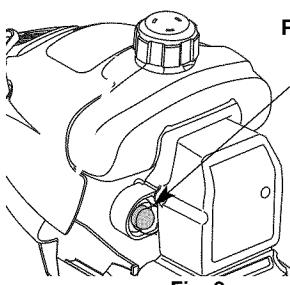

Fig. 3
- Fully press and release the primer bulb 10 times, slowly. Some amount of fuel should be visible in the primer bulb and fuel lines (Fig. 3). If you can't see fuel in the bulb, press and release the bulb as many times as it takes until you can see fuel in it.